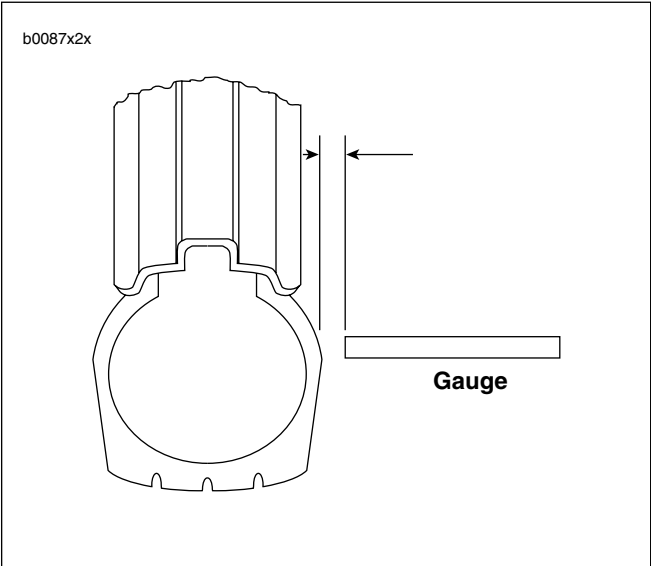

Figure 2-33. Checking Tire Lateral Runout
- 1. See Figure 2-33. Turn wheel on axle and measure amount of displacement from a fixed point to tire side-wall.